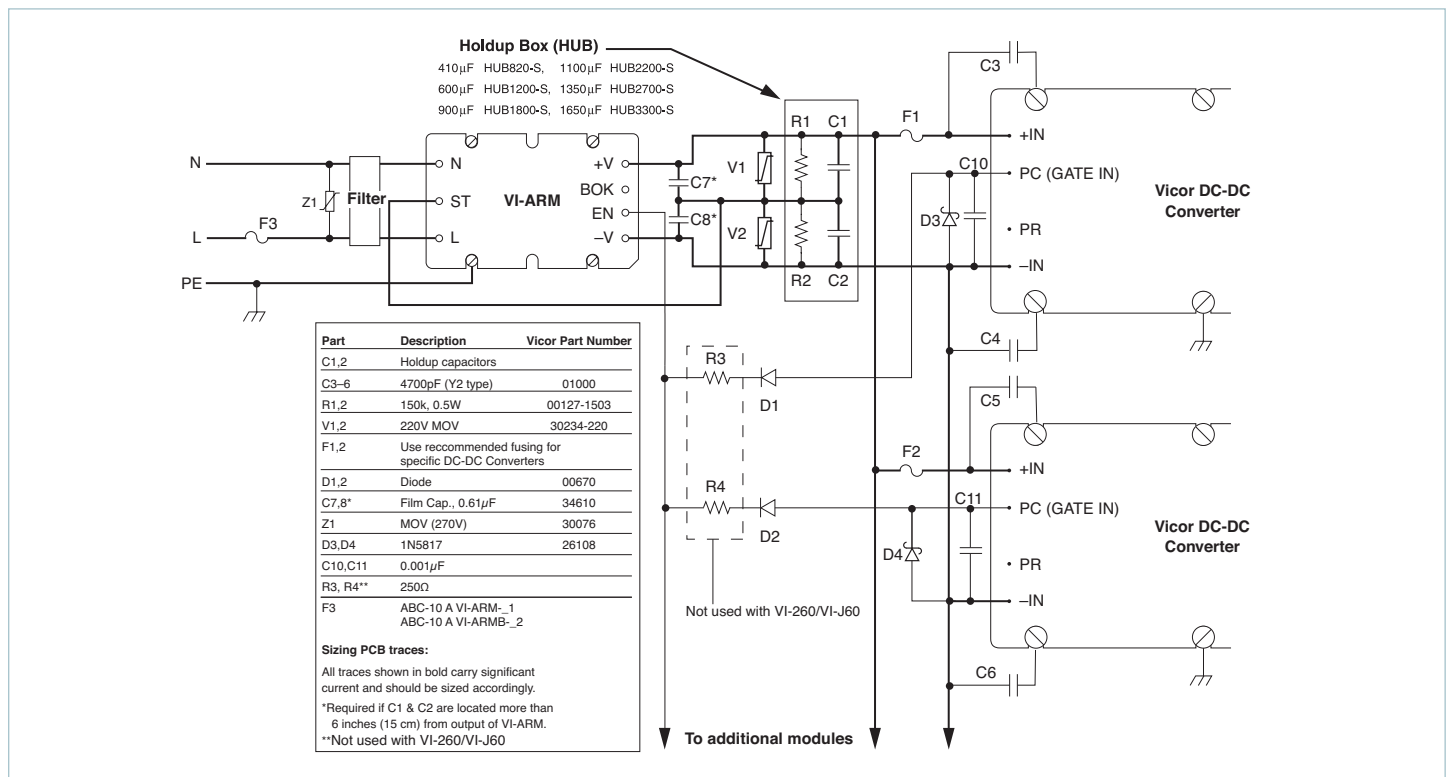

Figure 10 — Converter connections
Strap (ST) Pin: In addition to input and output power pin connections, it is necessary to connect the Strap pin to the junction of the series holdup capacitors (C1, C2, Figure 10) for proper (autoranging) operation. Varistors across the capacitors provide input transient protection. The bleeder resistors (R1, R2, Figure 10) discharge the holdup capacitors when power is switched off.
It should be noted that the series combination (C1, C2, Figure 10) requires each capacitor to be twice the calculated value, but the required voltage rating is reduced to 200V.